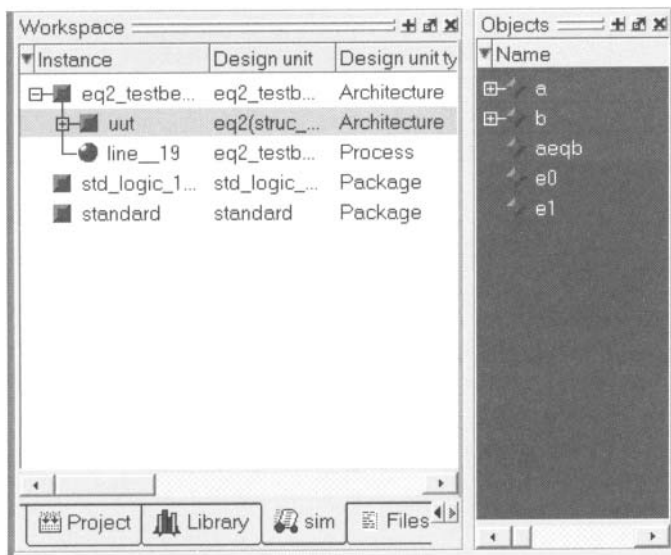

Figure 2.15 Sim panel of the workplace panel.
3. Load eq2_testbench by double-clicking the corresponding icon. The sim tab appears in the workplace window and the corresponding page displays the structure of the eq2.testbench module, as shown in Figure 2.15. An object window, which contains the signals in the selected module, may also appear.